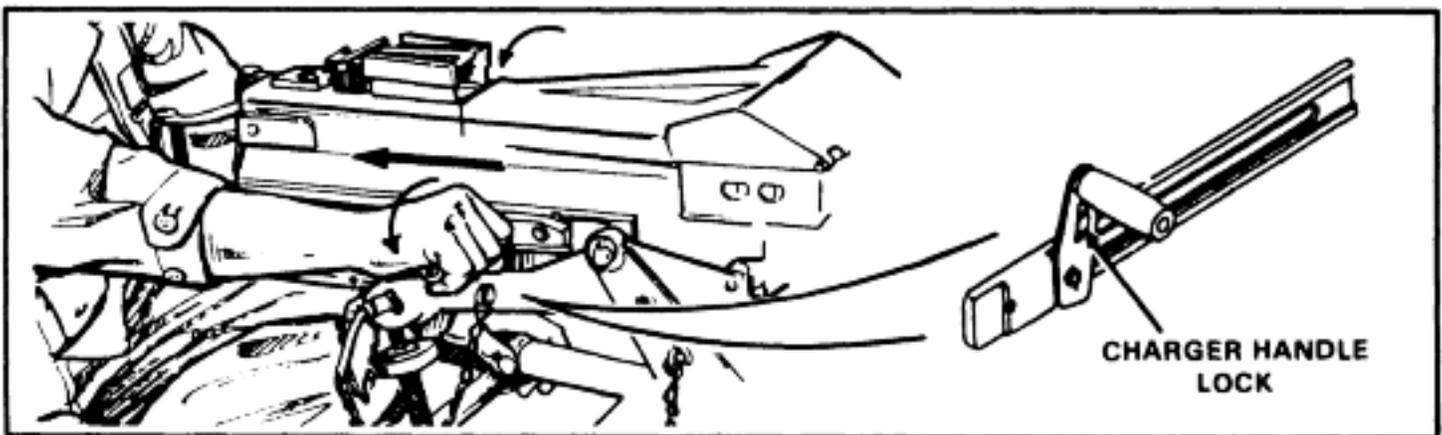

Figure 2-4. Charger handles.
- (5) Lower and pull both charger handles to the rear (Figure 2-4).